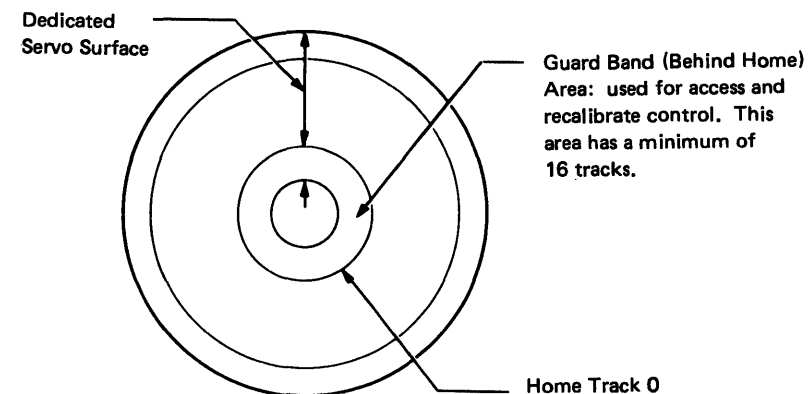

Figure FA452-4. Servo Surface
**Servo Surface.** The servo surface (Figure FA452-4) is used for seek operations. It has 360 concentric tracks, with index and sector coding that corresponds to the data tracks on the other surfaces. The guard band has 16 tracks without encoding.